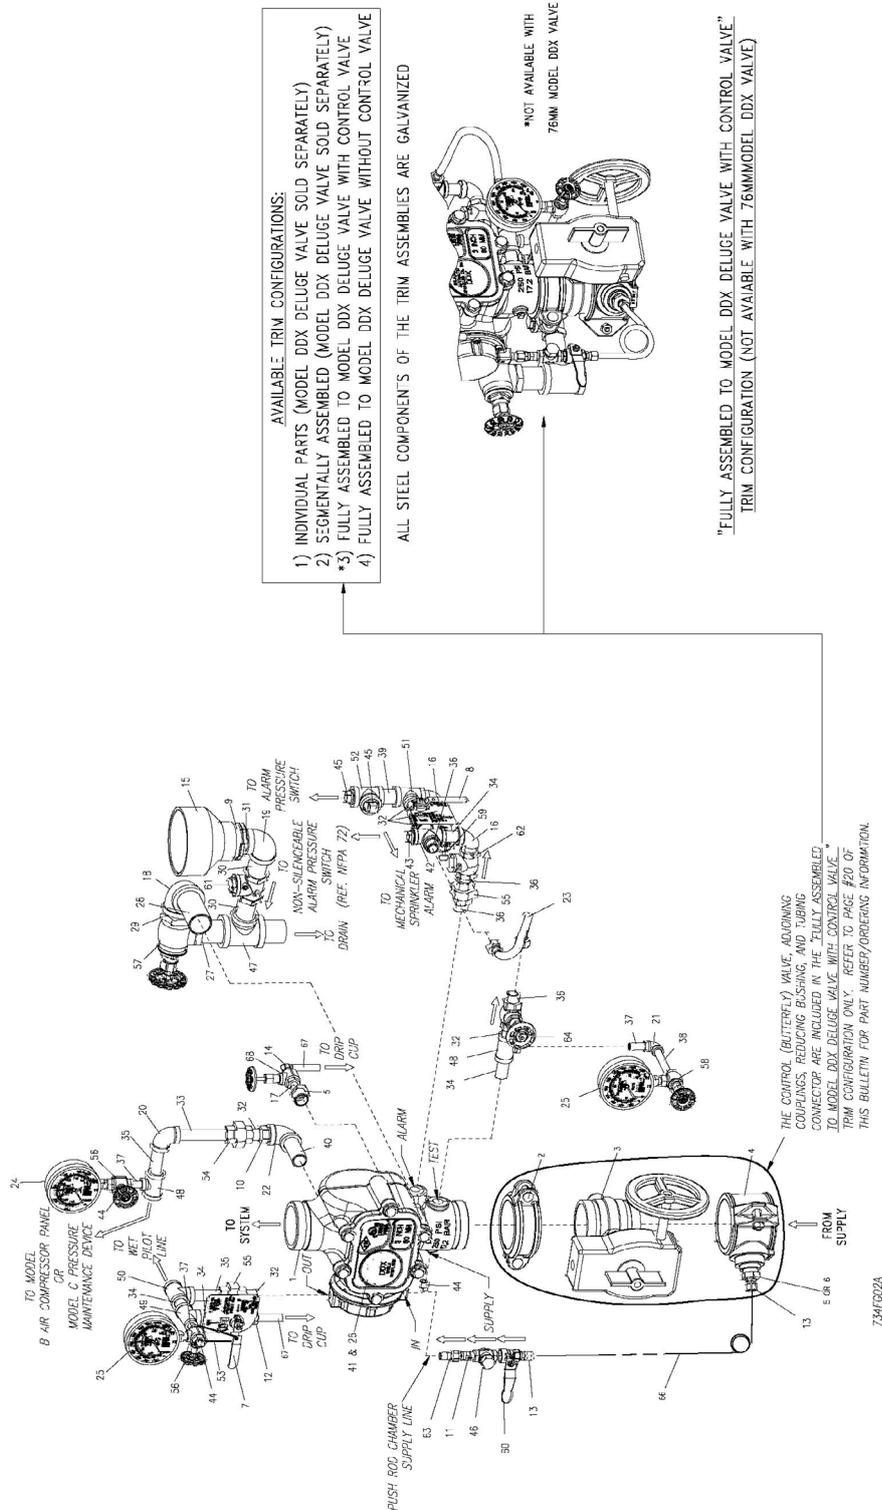

Fig. 2
At the heart of Rapidrop's Wet Pilot Line Single Interlock Praction System is the Model DDX Deluge Valve. This deluge valve is a hydraulically operated, straight-through-design, differential-type (see Fig. 1). System maintenance is simplified since the deluge valve can be reset externally without removing its cover plate. This feature provides a significant system restoration time advantage. The Model DDX Deluge Valve has an intermediate chamber and thereby does not require an inline air check valve. Also, for ease of installation, the deluge valve only requires a single drain connection. The trim set for the system (see Fig. 2) provides all of the necessary equipment for connections to the Model DDX Deluge Valve's pushrod chamber inlet and outlet ports, the 1/4(30 mm) main drain, alarm devices, air supply, and required pressure gauges. This trim set is available in individual (loose) parts, in time-saving, segmented assembled kit forms or fully assembled to the Model DDX Deluge Valve (with or without a control valve).
Rapidrop Single Interlock Praction Systems are UL Listed only when used with the trim components shown in Fig 2.
Wet Pilot Line Single Interlock Preaction Trim Parts List (Refer to Fig. 2)
- a. Using a tapped connection directly below or next to the main water supply control valve using a welded outlet or the appropriate mechanical fittings. A grooved-end outlet coupling is one way to achieve this (see Fig. 2); or